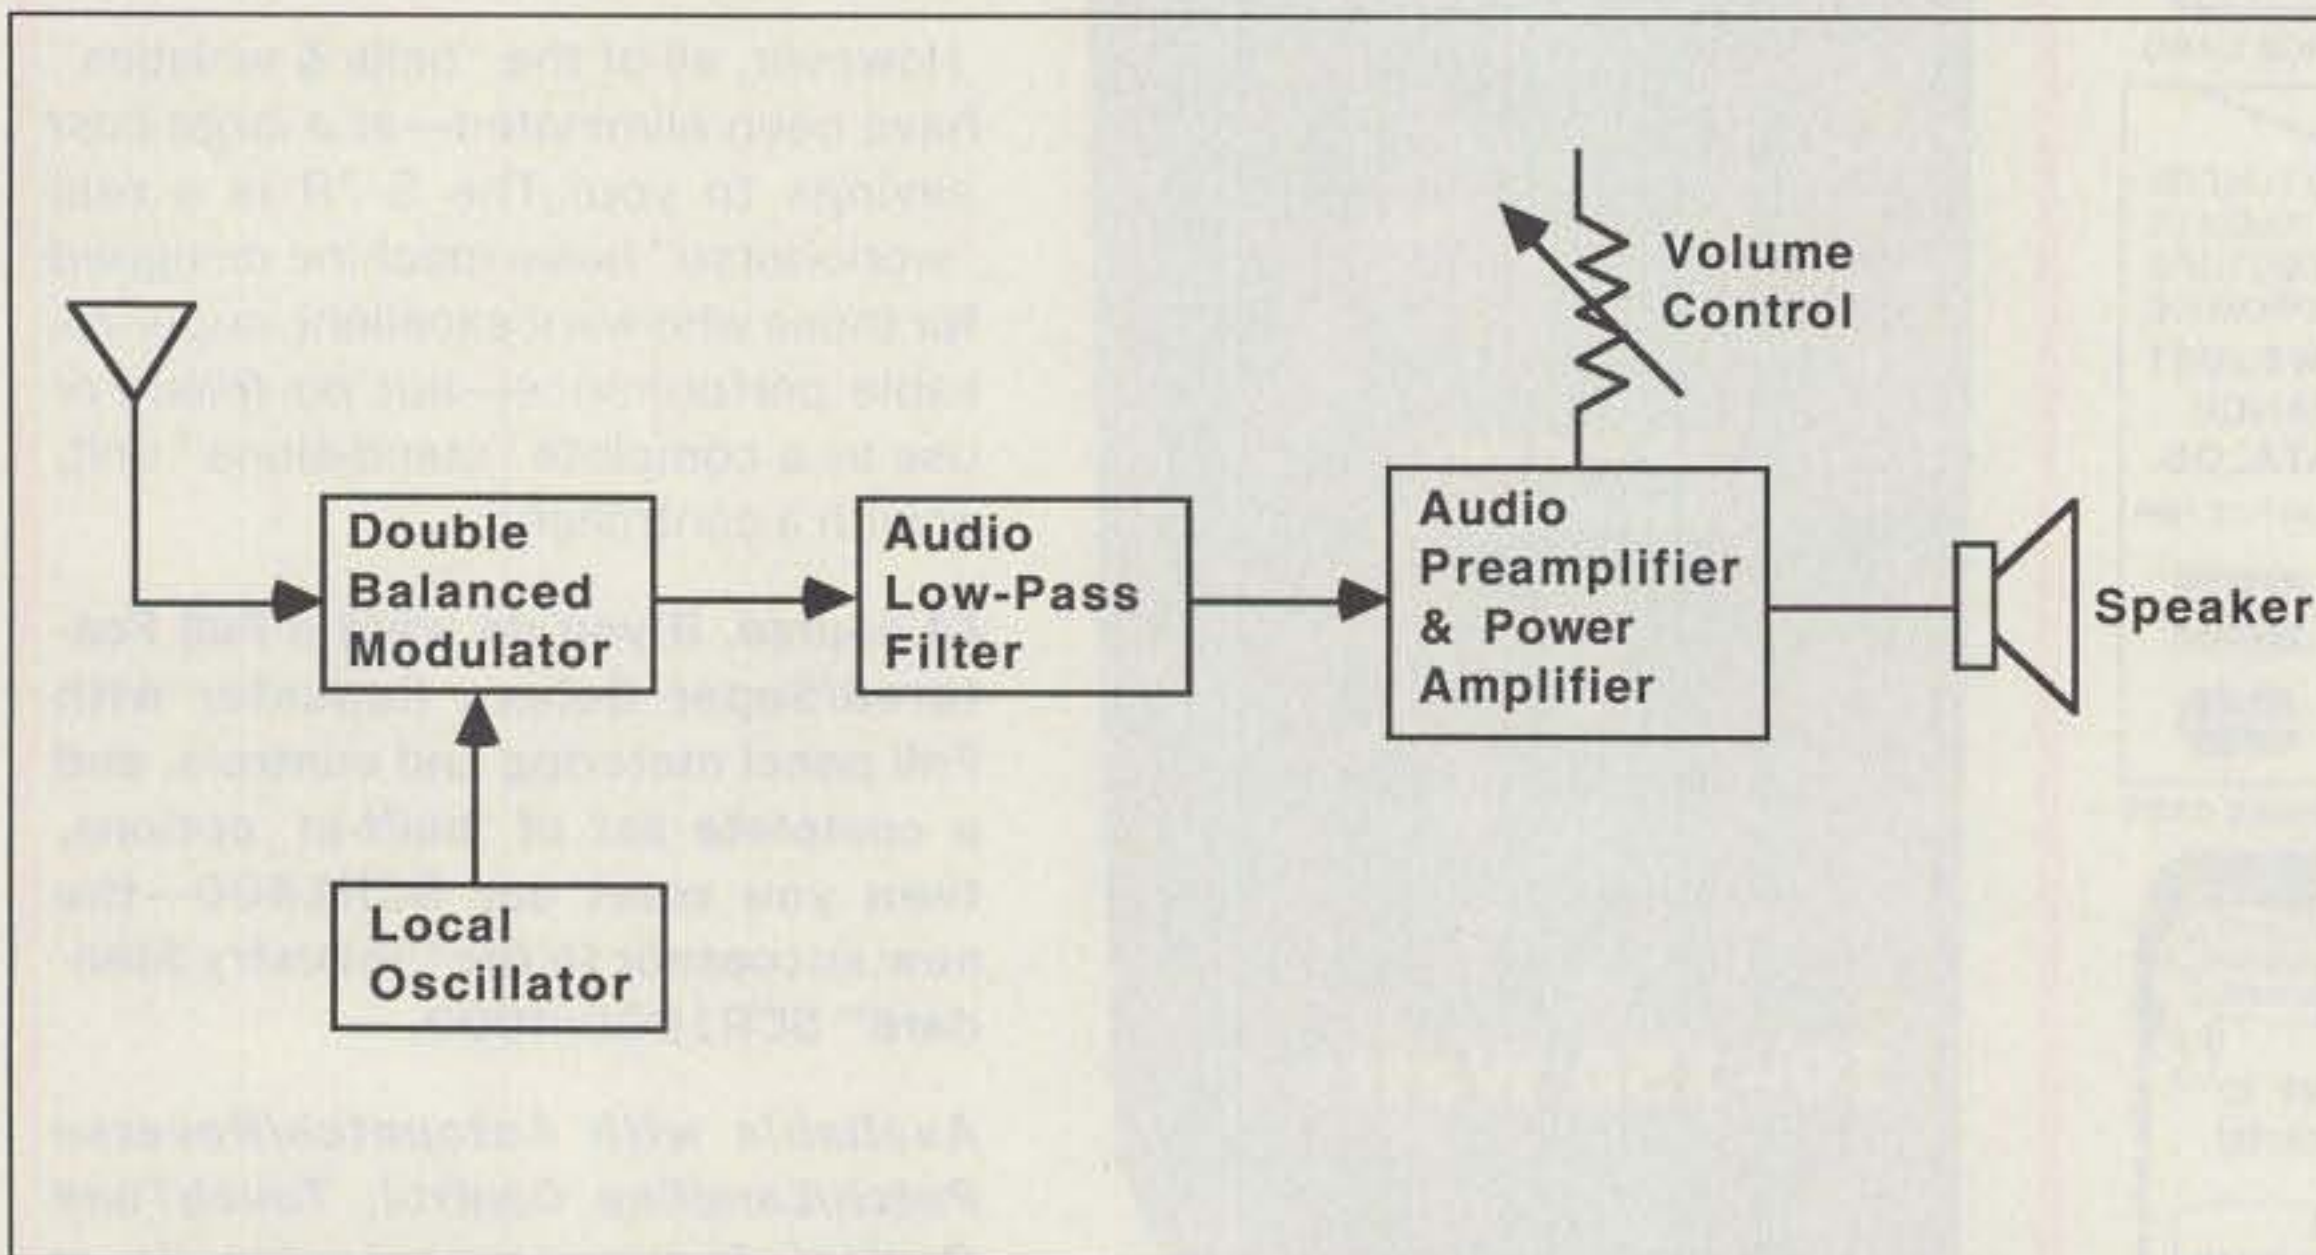

Figure 1. Block diagram of a direct conversion receiver.
One approach to designing simple radio receivers is to use a broadband front end. Although at one time the front ends of radio receivers were tuned to a specific frequency, for the past two decades or so a broadband approach has been popular. The need for broadband tuning became apparent to me when I was working on some direct conversion receiver (DCR) designs. The DCR is similar to the superheterodyne (Figure 1), except that the local oscillator (LO) operates on or quite near the desired RF frequency.